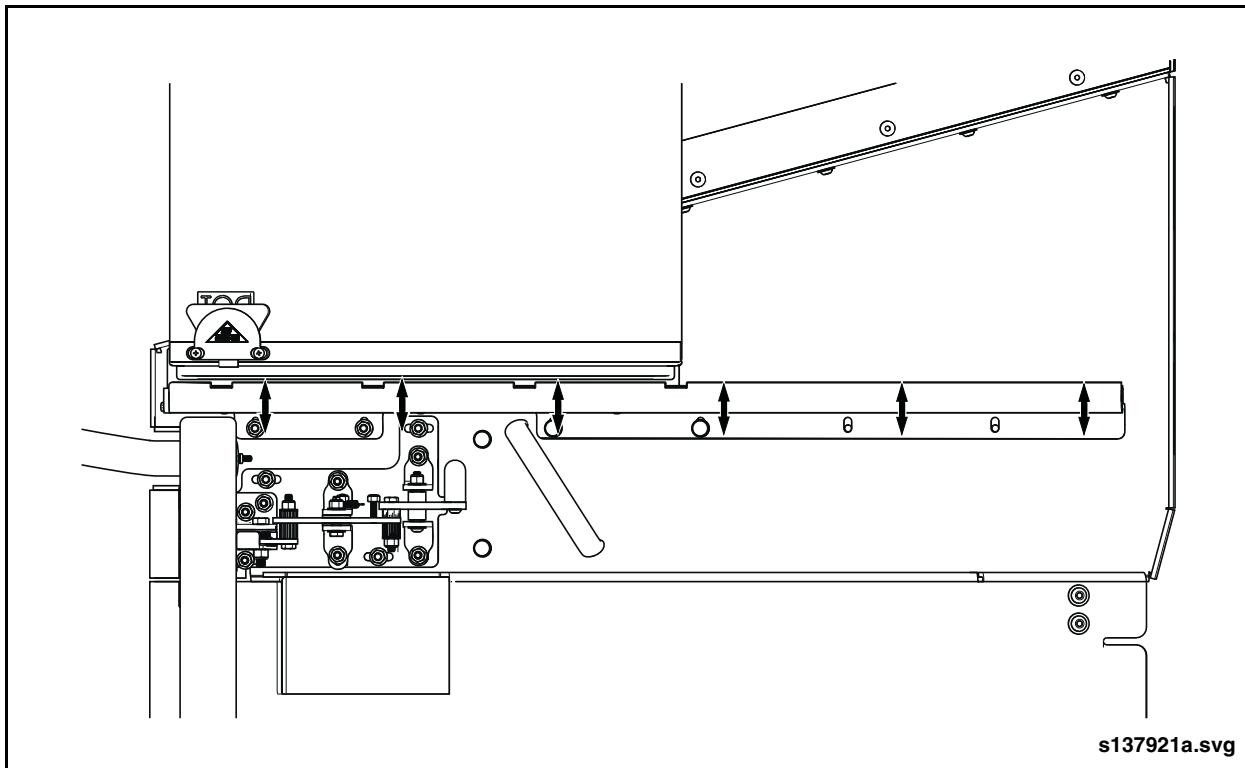

Fig. 17-22: Lower Slider Track Adjustment
4. Lower or raise the lower sliding track to allow for proper adjustment of upper track. See "Fig. 17-22: Lower Slider Track Adjustment" on page 22.